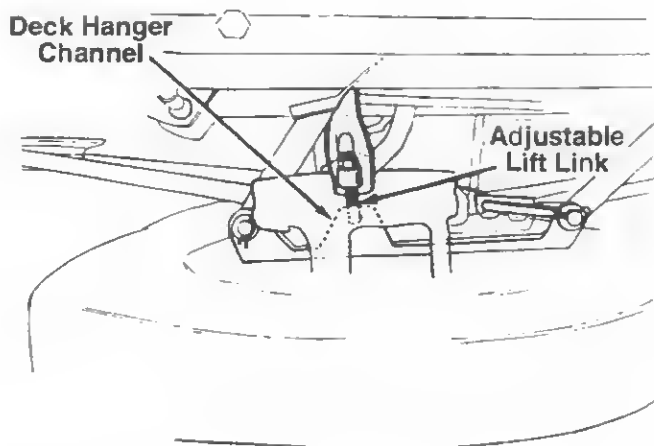

FIGURE 5.
2. Pull the adjustable lift link out of the deck hanger channel. See figure 5.